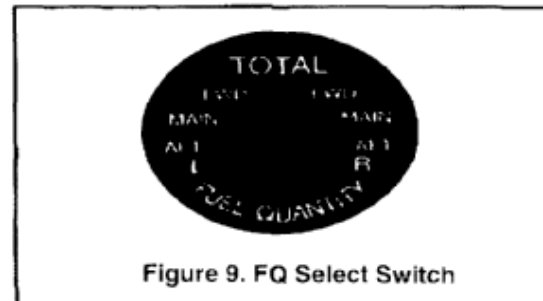

Figure 9. FQ Select Switch
38. In cockpit, select RIGHT MAIN tank on Fuel Quantity Selector Switch (Figure 9).